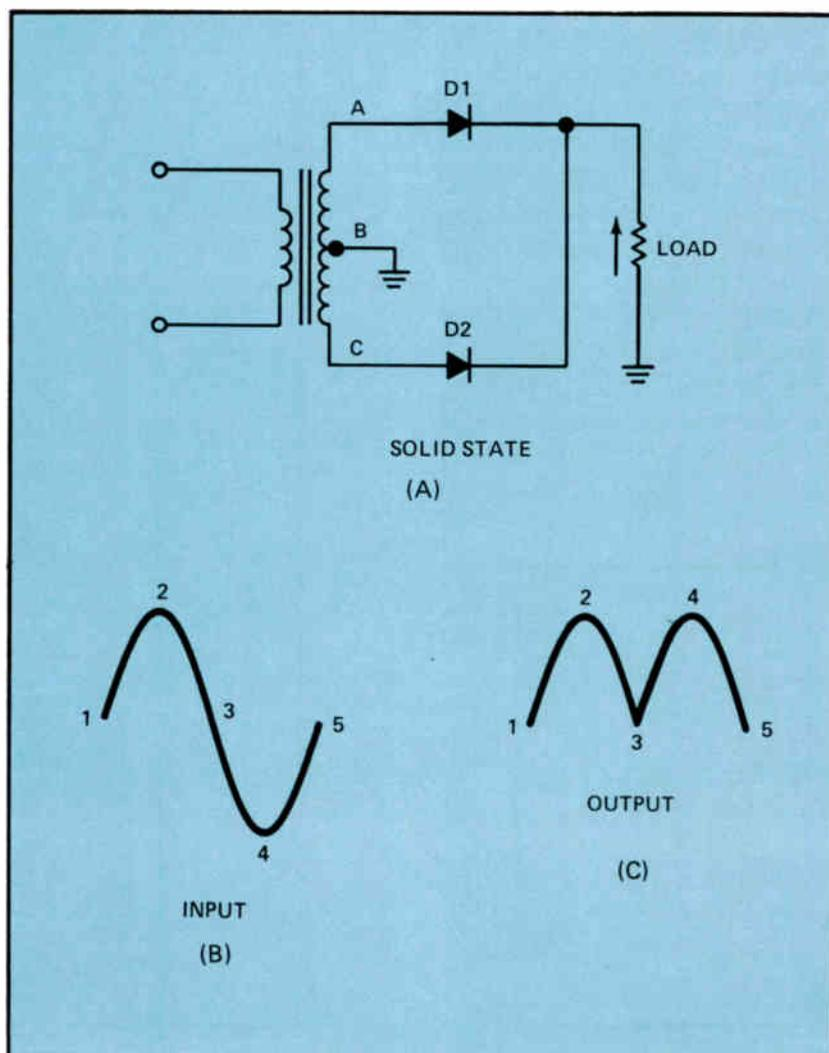
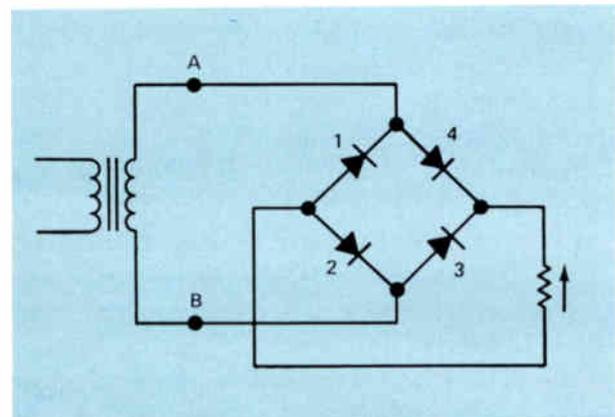

Figure 10. A full-wave rectifier.
Figure 11. A bridge rectifier circuit.
A typical full-wave rectifier circuit is shown in Fig.10(A). Notice that the circuit uses two diodes, D1 and D2, and also that there are three connections to the secondary of the power transformer. Terminal B is a center tap connection, which means that the voltage between terminals A and B will be equal to the voltage between terminals B and C. When terminal A is positive, terminal B will be negative and terminal C will be even more negative. This means that terminal C will also be negative with respect to terminal B.
With an ac cycle like the one in Fig.10(B), we'll have a pulsating dc through the load as shown in Fig.10(C). Notice that for the first half-cycle of the input voltage, we get a current pulse through the load as shown by 1-2-3 in Fig.10(C). During the next half-cycle of the input voltage in Fig.10(B), we also get a current pulse as shown in 3-4-5 of Fig.10(C). In other words, for each half-cycle we get a current pulse through the load with the current flowing through D1 during the first half-cycle and D2 during the next half-cycle.
Compare the output for the full-wave rectifier shown in Fig.10(C) with the output of the half-wave rectifier shown in Fig.9(C). Assuming that both rectifiers are operating from a 60 Hz power line, notice that with the half-wave rectifier we get 60 pulses per second and the current is only flowing during the one-half cycle. In the full-wave rectifier circuit we get 120 pulses per second, and there is current flow during each half-cycle. You can see that it will be much easier to smooth the pulsating output from a full-wave rectifier than it is to smooth the output from the half-wave rectifier.
Another full-wave rectifier circuit is shown in Fig.11. This is called a *bridge rectifier*. Since a center-tap transformer winding is not required, it has the advantage of requiring only half as many turns on the secondary winding for a given output voltage, compared to the transformer used in Fig.10. In the full-wave rectifier shown in Fig.10, we use one half of the secondary winding during one half-cycle and the other half during the other half-cycle. Therefore, for a given output voltage, the voltage between terminals A and C of the transformer shown in Fig.10 must be twice the voltage across the secondary of the transformer shown in Fig.11. However, the circuit
shown in Fig.11 does have the disadvantage that it requires four rectifiers instead of two. But silicon rectifiers are so inexpensive that the cost of the two extra rectifiers is usually more than offset by the savings in the power transformer.
- 12 What advantage does the bridge rectifier circuit in Fig.11 have over the full-wave rectifier in Fig.10?
- 13 What is the disadvantage of the bridge rectifier circuit shown in Fig.11?
The output from the rectifiers we discussed in a preceding section is not pure dc. Instead, it is pulsating dc — direct because it flows in only one direction, pulsating because it varies in amplitude rather than flowing steadily. You will remember that the half-wave rectifier shown in Fig.9 produces one pulse for each cycle. With a 60 Hz power line, there will be 60 pulses per second. Also, remember that these pulses are produced during one-half of the cycle while the output from the rectifier is zero during the other half-cycle. The full-wave rectifier produces 120 pulses per second, one pulse for each half-cycle. The output from the full-wave rectifier was shown in Fig.10(C).